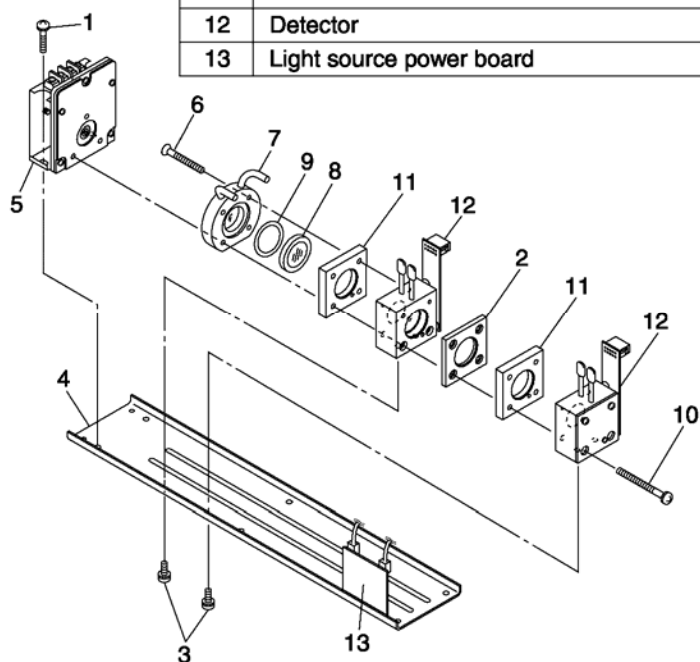

Figure 7-2: Measuring Unit Configuration (Block Cell)
7.4.1.2 BLOCK CELL REMOVAL (SEE FIG. 7-2)